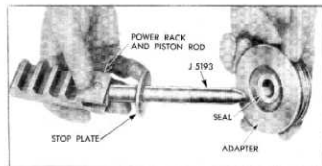

Fig. 36—Installing Adapter on Piston Rod
3. Install special assembly tool, J-5193 (fig. 36),